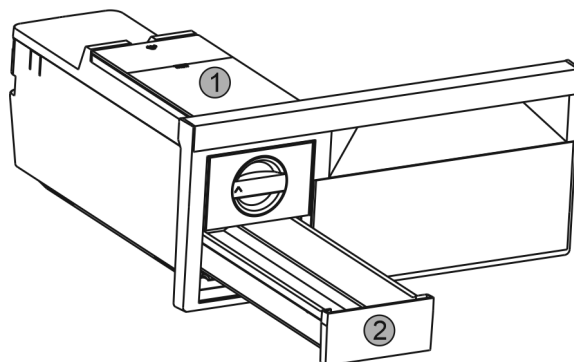

Fig. 53
- ▶ Take out the water tank Fig. 53 (1) and ice cube drawer Fig. 53 (2).